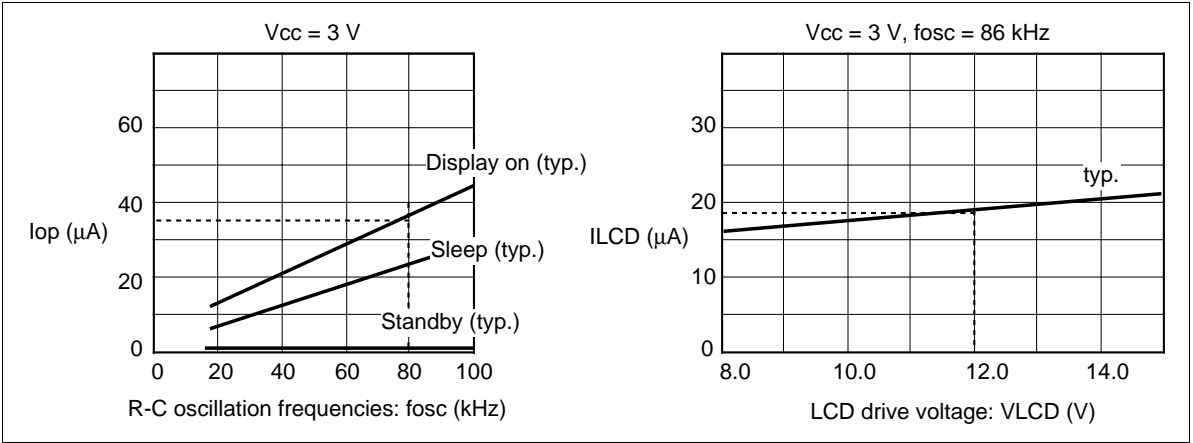

Figure 42 Relationship between the Operation Frequency and Current Consumption
- 8. The following shows the relationship between the operation frequency (fosc) and current consumption (Icc) (figure 42).